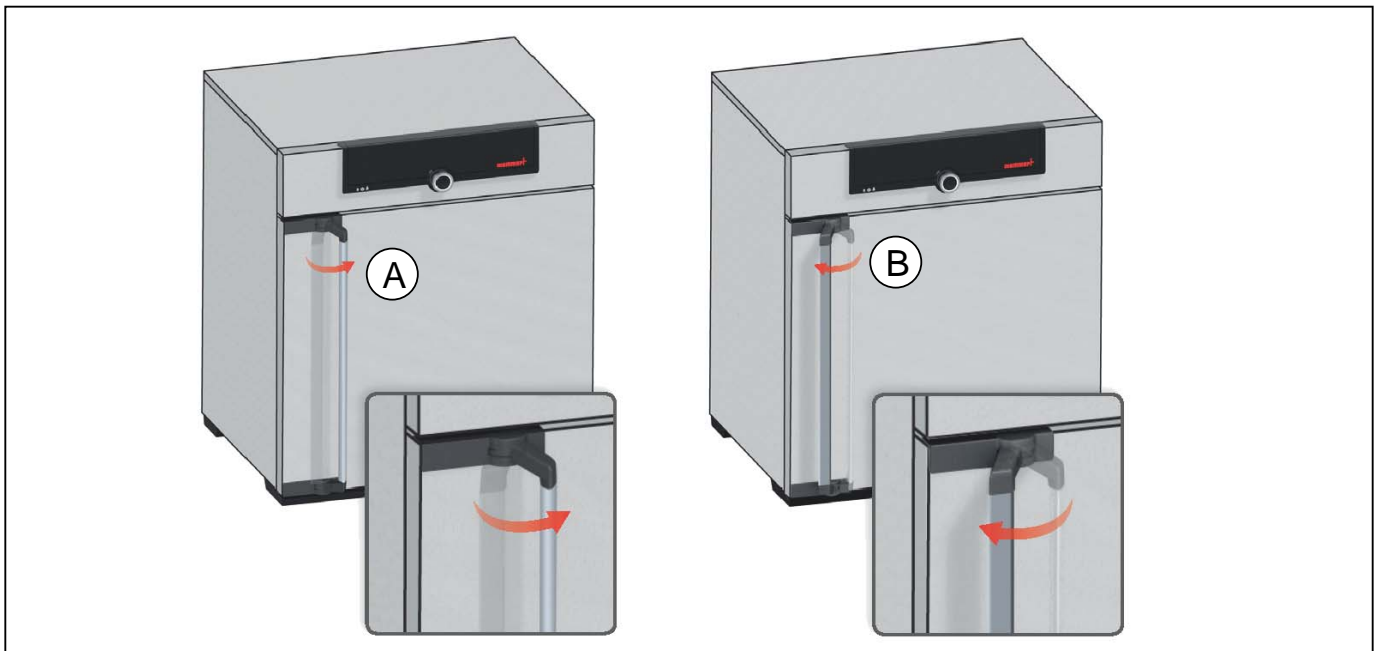

Fig. 15 Opening and closing the door
- ▶ To open the door, pull the door handle to the side (to the left or to the right, depending on the door variation, see Fig. 15, A) and open the door completely.
- ▶ To close the appliance, push the door closed and the door handle to the side (B).